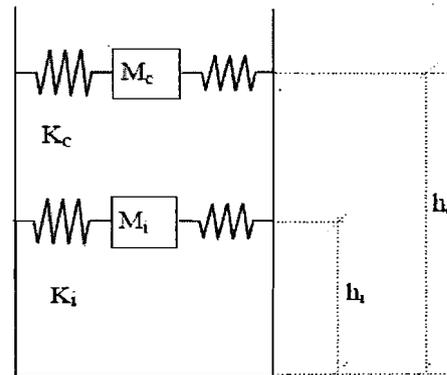

Figure 2: Mechanical models for flexible circular tanks (Malhotra et. al., 2000)
- The high frequency ground motion matches the North Anna ESP site-specific spectra as representative of most severe rock sites in the Eastern US (Fig. 2)
Anchored Approx. at 0.50 g (Fig. 2)